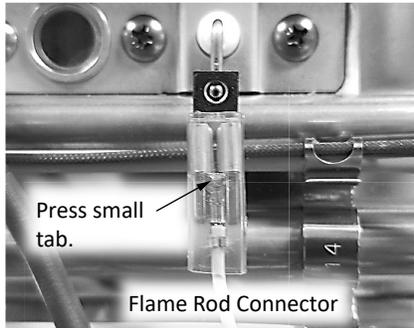

Figure 59: Flame Rod Connector.
- 14 Disconnect the flame rod connector (Yellow wire). Notice: the flame rod connector uses a special connection. Press the small tab in the center of the connector to release it. See Figure 59 on page 56.
Reference Figure 59 for correct orientation.